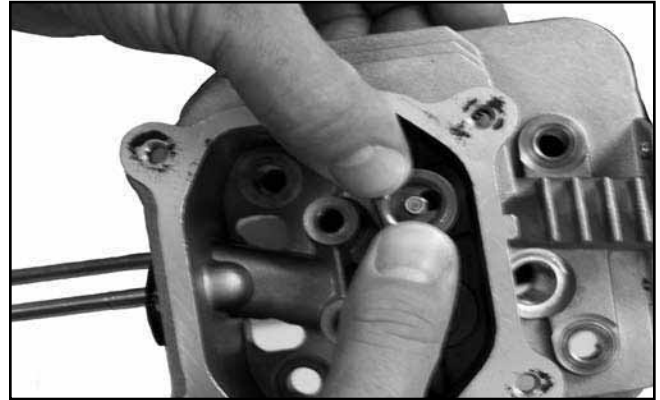
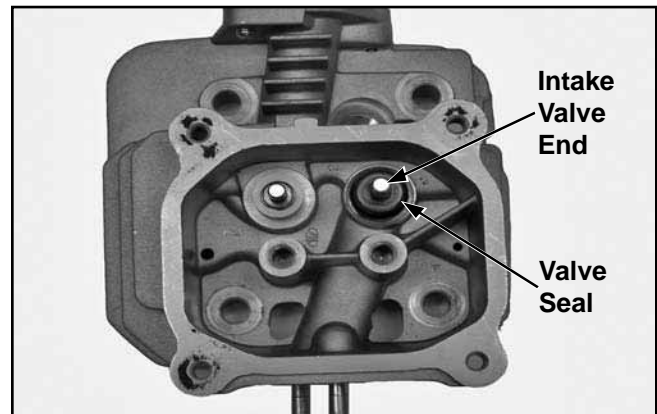
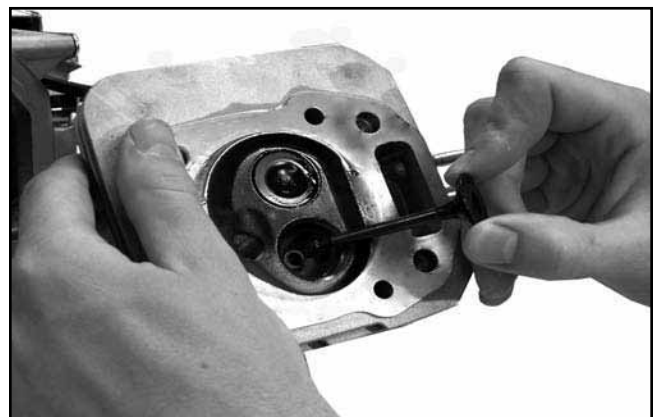

Figure 8-42. Removing Valve Spring Keepers.
Figure 8-43. Removing Valve Seal, Intake Valve
Figure 8-44. Removing Valves.
1. Push down on the valve spring keepers to release the valve springs from the valve stems. See Figure 8-42.
3. Push the end of the intake valve (Figure 8-42) to release the valve seal (Figure 8-43), and remove both valves from the opposite end of the head (Figure 8-44). Mark the valves INTAKE and EXHAUST for reinstallation.